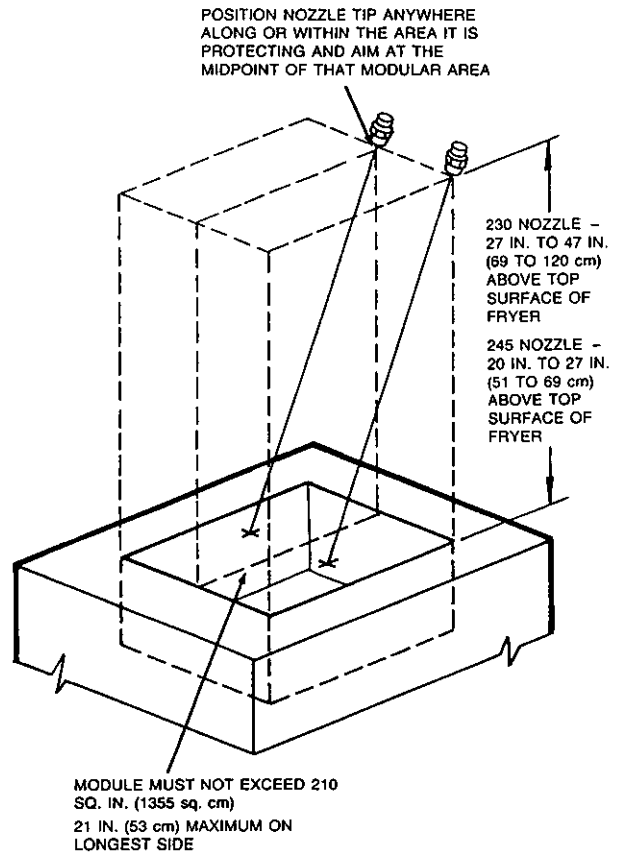

FIGURE 33g
1. **High Proximity Applications:** 27 to 47 in. (69 to 130 cm) above the top surface of fryer. See Figure 33g
2. **Medium Proximity Applications:** 20 to 27 in. (51 to 69 cm) above top surface of fryer. See Figure 33g.
To protect each area, the nozzle tip must be located within the perimeter of the area it is protecting and aimed at the mid point of the respective modular area. See Figure 33g.